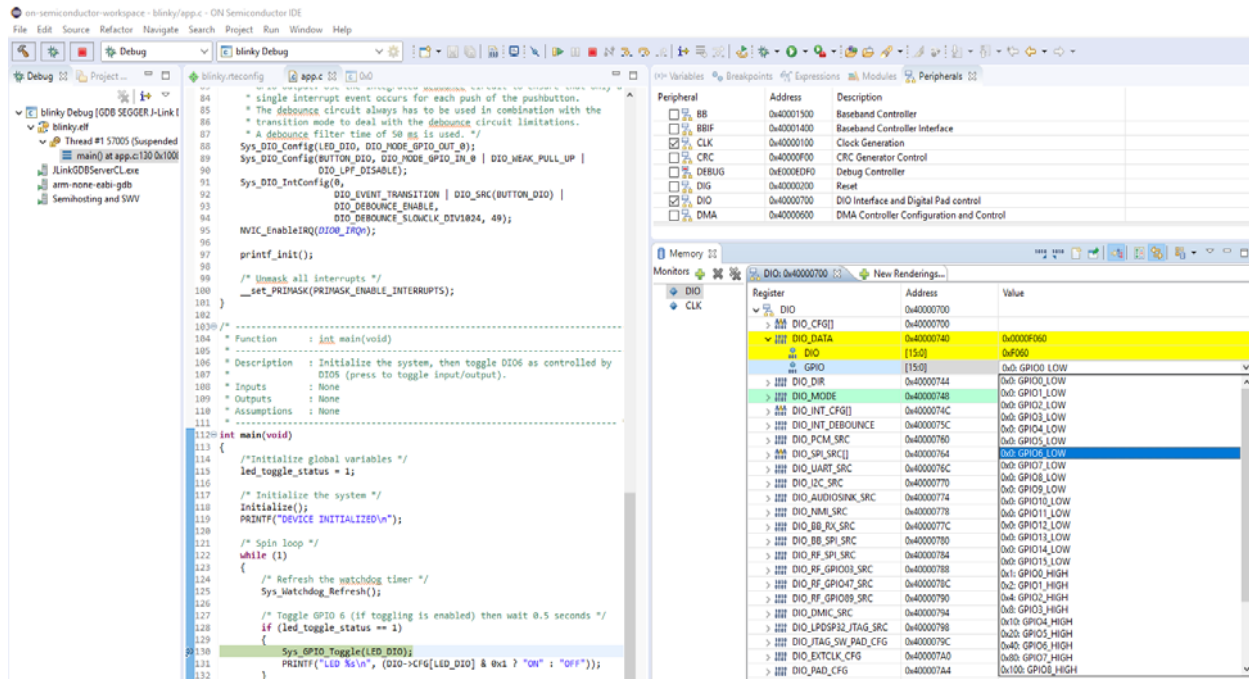
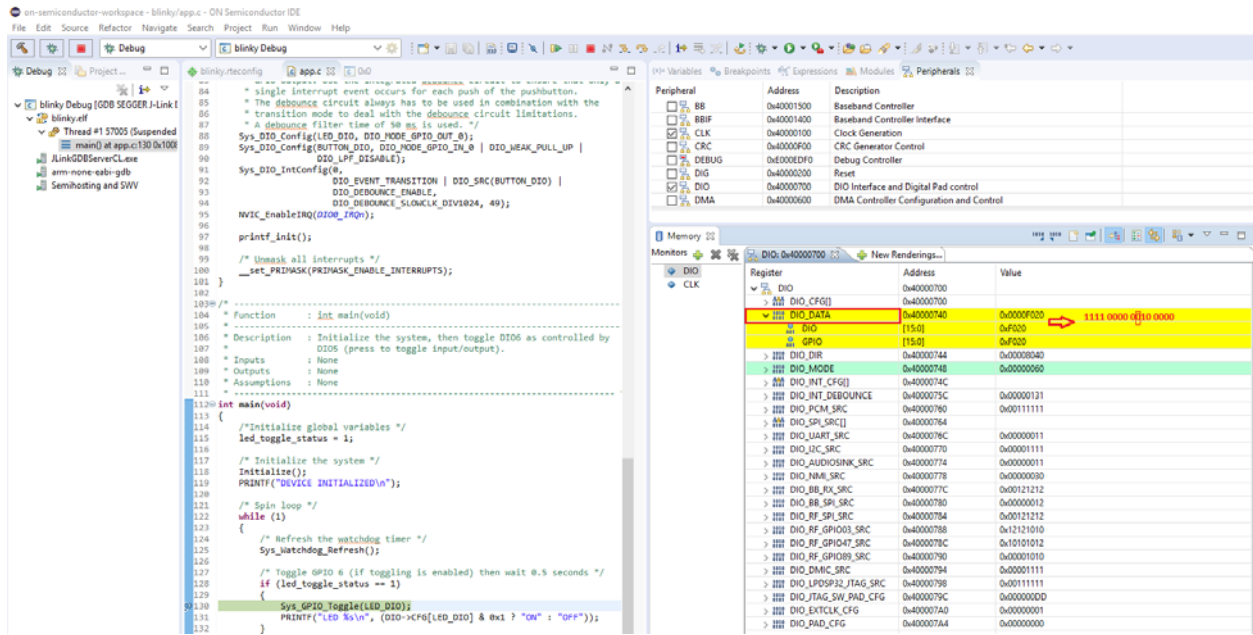

Figure 14. Toggling RSL10 DIO Using the Peripheral Registers View: Before
Figure 15. Toggling RSL10 DIO Using the Peripheral Registers View: After
6. Press F6 to step through the code. You can observe that this register's bit 6 toggles its state when `Sys_GPIO_Toggle(LED_DIO)` is executed (in this case, from 0xF060 to 0xF020). The register turns yellow to indicate that you have activated real-time monitoring for it (see Figure 14 on page 18).
7. To manually change the register value, click on the **Value** field of the GPIO register to change the (**HIGH/LOW**) state of **GPIO6**. Figure 14 shows the view before making the change, and Figure 15 illustrates the view after making the change. You can observe that the LED (DIO6) on your board changes state.